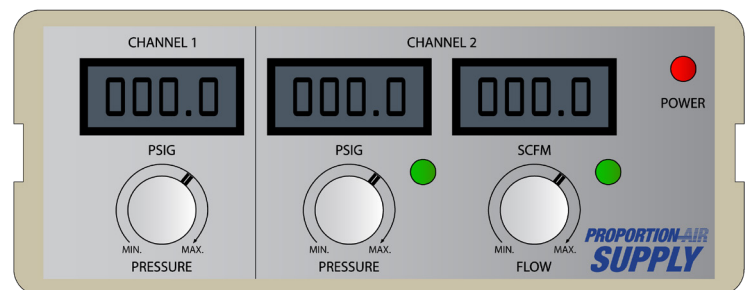

Figure 2
5. Turn on the power switch on the rear of the Proportion-Air Supply. The Proportion-Air Supply should look similar to Figure 2. With the top right power LED on and each panel meter displaying approximately 000.0.
1. There are two channels (outputs) used on the Proportion-Air Supply. Each channel and their respective side are shown in Figure 2.